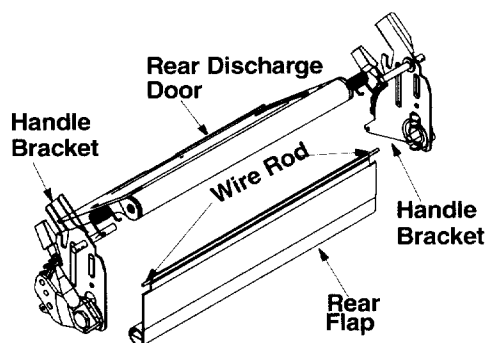

Figure 14
- To remove rear flap, cut off the flat end of the wire rod which secures it to the deck. See Figure 14.